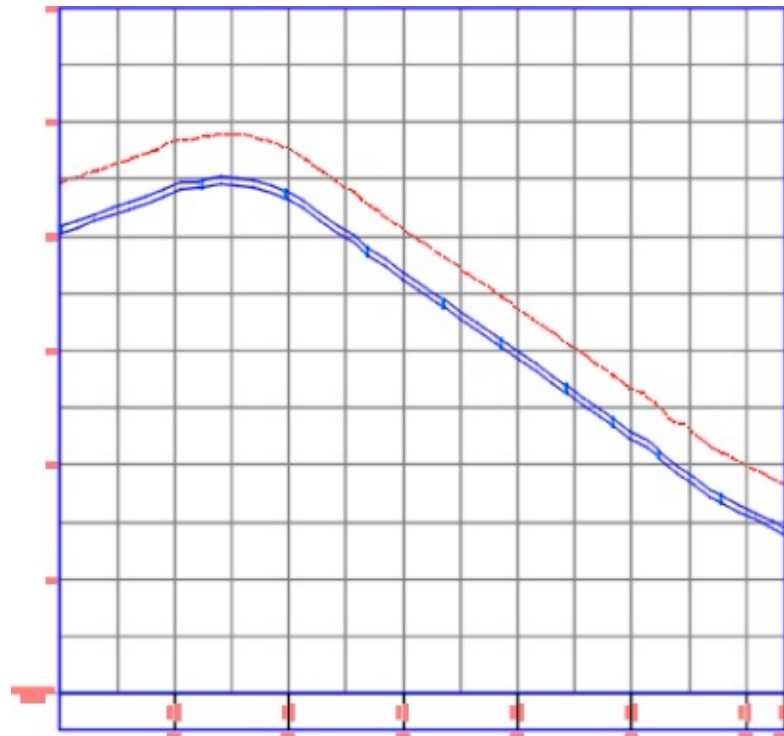

Figure 13.94 The pressure pipe follows the surface.
- Your profile view will change to resemble Figure 13.94.